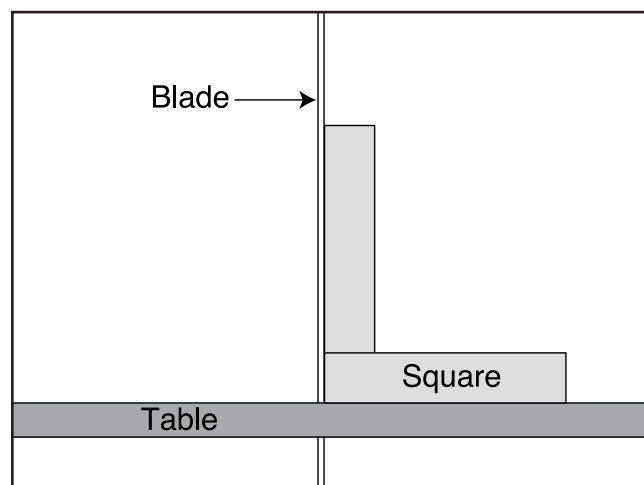

Figure 53. Checking table alignment with the blade.
4. Use a square to check table alignment with the blade, as shown in **Figure 53**.